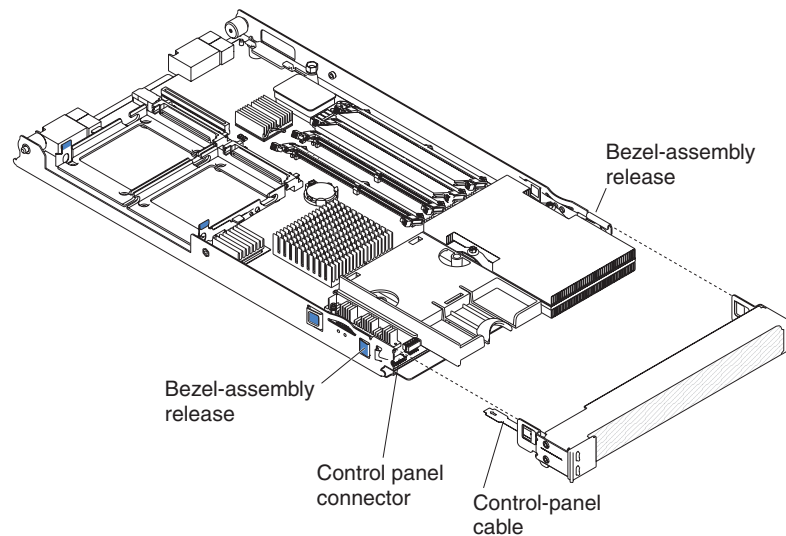

Figure 18. Blade server bezel installation
Figure 18 shows how to install the bezel assembly on the blade server.
3. Carefully slide the bezel assembly onto the blade server as shown in Figure 18, until it fully engages the bezel-assemble release on both sides.